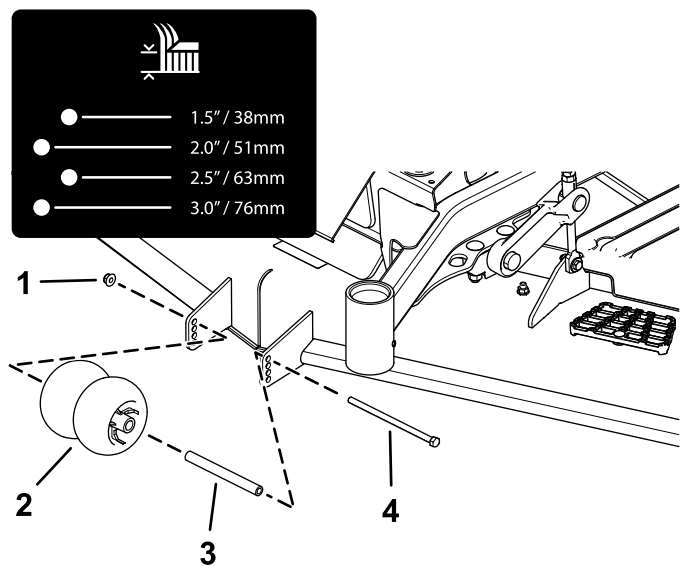
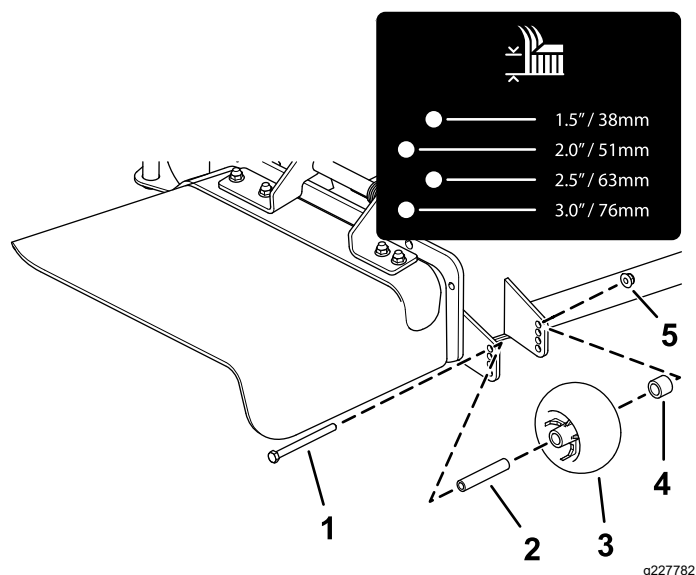
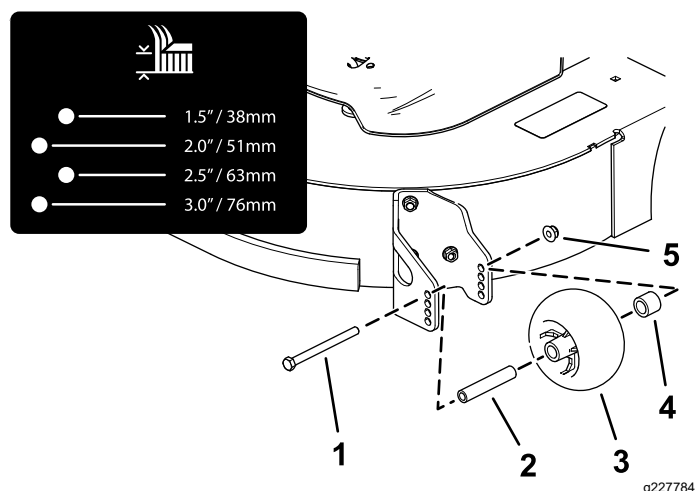

Figure 26
Figure 27
Figure 28
4. Adjust the anti-scalp rollers as shown in Figure 26, Figure 27, and Figure 28.